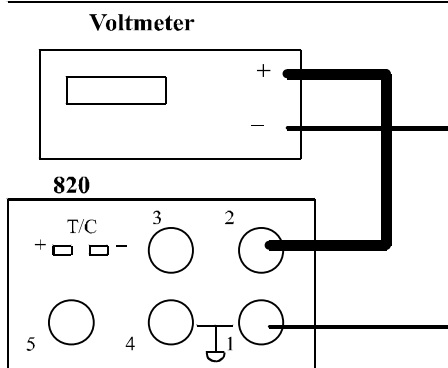

FIGURE 5
1. Switch the 820 to Vdc. Connect terminals 1 and 2 from the 820 to a Voltage Meter (See figure 5).